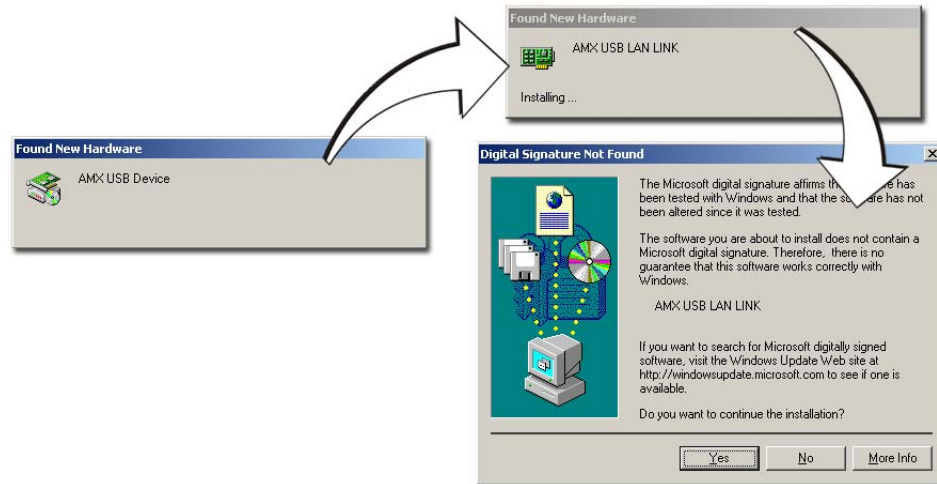

FIG. 54 USB driver installation popup window
8. **ONLY AFTER** the unit displays the first panel page, **THEN** insert the mini-USB connector into the Program Port on the panel. It may take a minute for the panel to detect the new connection and send a signal to the PC (*indicated by a green System Connection icon*). If this is your first time installing the USB driver, a USB driver installation popup window (FIG. 54) then appears on the screen.